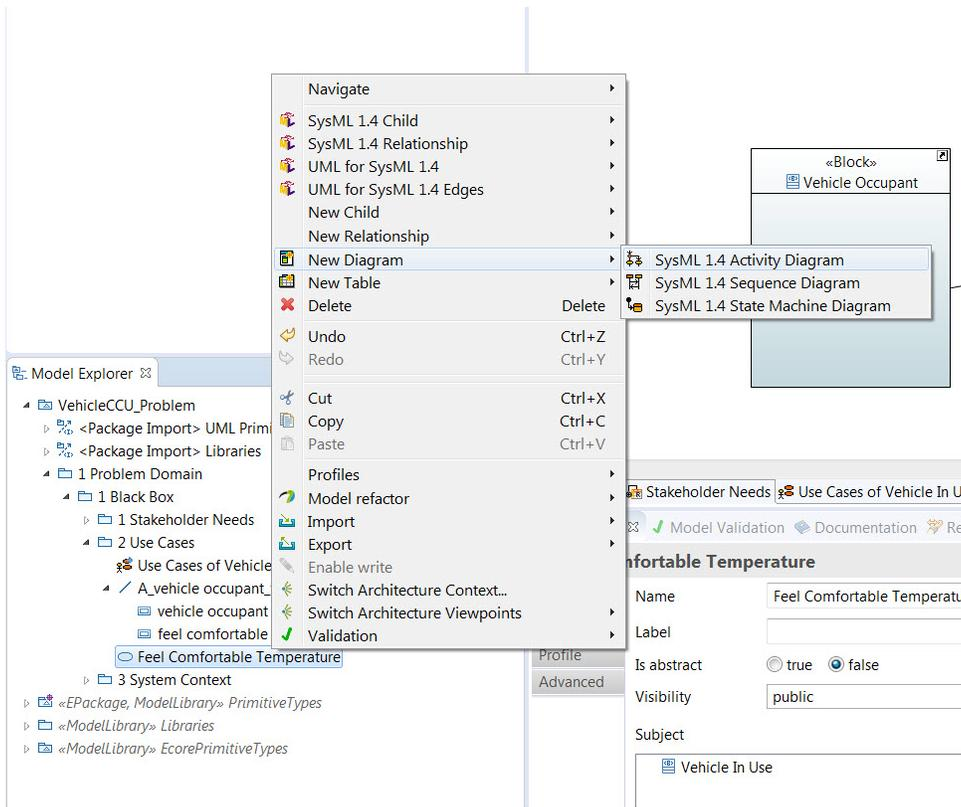
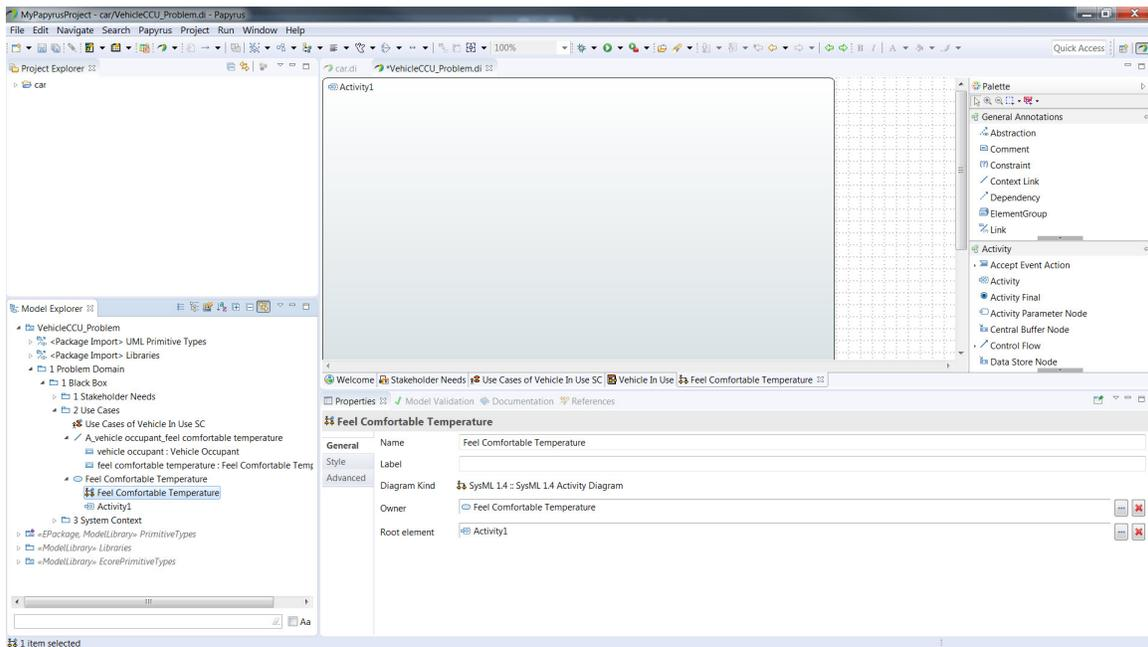

Figure 36: Create New Activity Diagram
Figure 37: *Feel Comfortable Temperature* Activity Diagram
9. Now we will create an activity diagram for our use case. Right-click on the *Feel Comfortable Temperature* use case and then select **New Diagram** and then **SysML 1.4 Activity Diagram** (figure 36). Name the diagram *Feel Comfortable Temperature* (the same name as the use case). Your screen should look like figure 37. We now have the *Feel Comfortable Temperature* activity diagram as a child of the *Feel Comfortable Temperature* use case in the *Model Explorer* window.